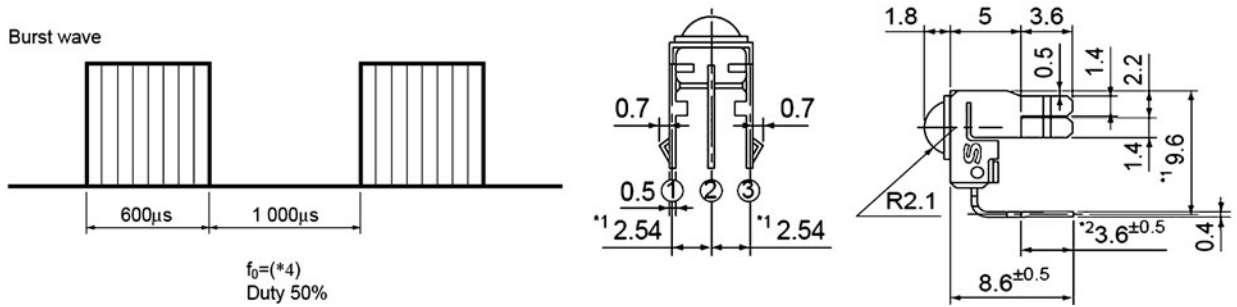

Figure 18-2 The datasheet for a typical RC5 remote-control decoder module.
In our version of the remote control hijacker, we used the Sharp GP1UM26X decoder module, as we had a few of them that were salvaged from old DVD players and VCRs (see Figure 18-2). If you are going to salvage your decoder module, make sure to take a look on the board before unsoldering so that you can identify the power and ground connections as most OEM modules will have no markings. The ground wire will be easy to locate, but you may have to do a bit of tracing to identify the signal pin. If you have to take a wild guess, then just connect the unit to a 3-volt (V) coin cell with a piezo buzzer and try random combinations until you hear a *blip-blip-blip* on the buzzer when you aim a remote control at the device and press a button. A coin cell has very low amperage, so it will not kill the module if you hook it up completely reversed while brute force hacking to find the pinout.